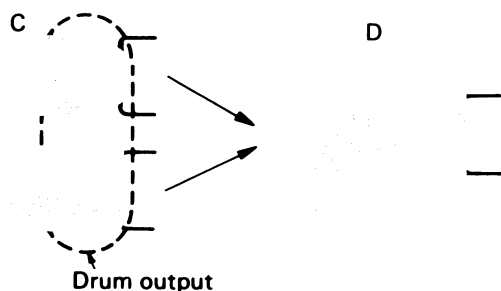

Fig. 19 Drum output adjustment
1. In the same manner as for the drum input, turn the take-up guide roller to adjust the falling portion (drum output portion) of the FM waveform. Incorrect examples are shown by C in Fig. 19, while D indicates the correct adjustment.